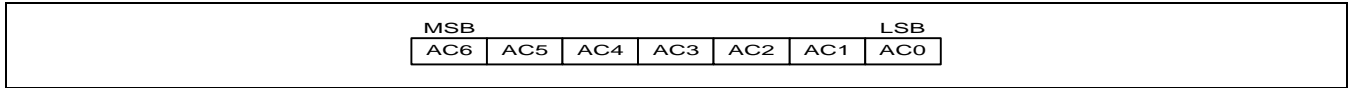

Figure 1. DDRAM Address
DDRAM stores display data of maximum 96 x 8 bits (96 characters). DDRAM address is set in the address counter (AC) as a hexadecimal number. (refer to Figure 1.)